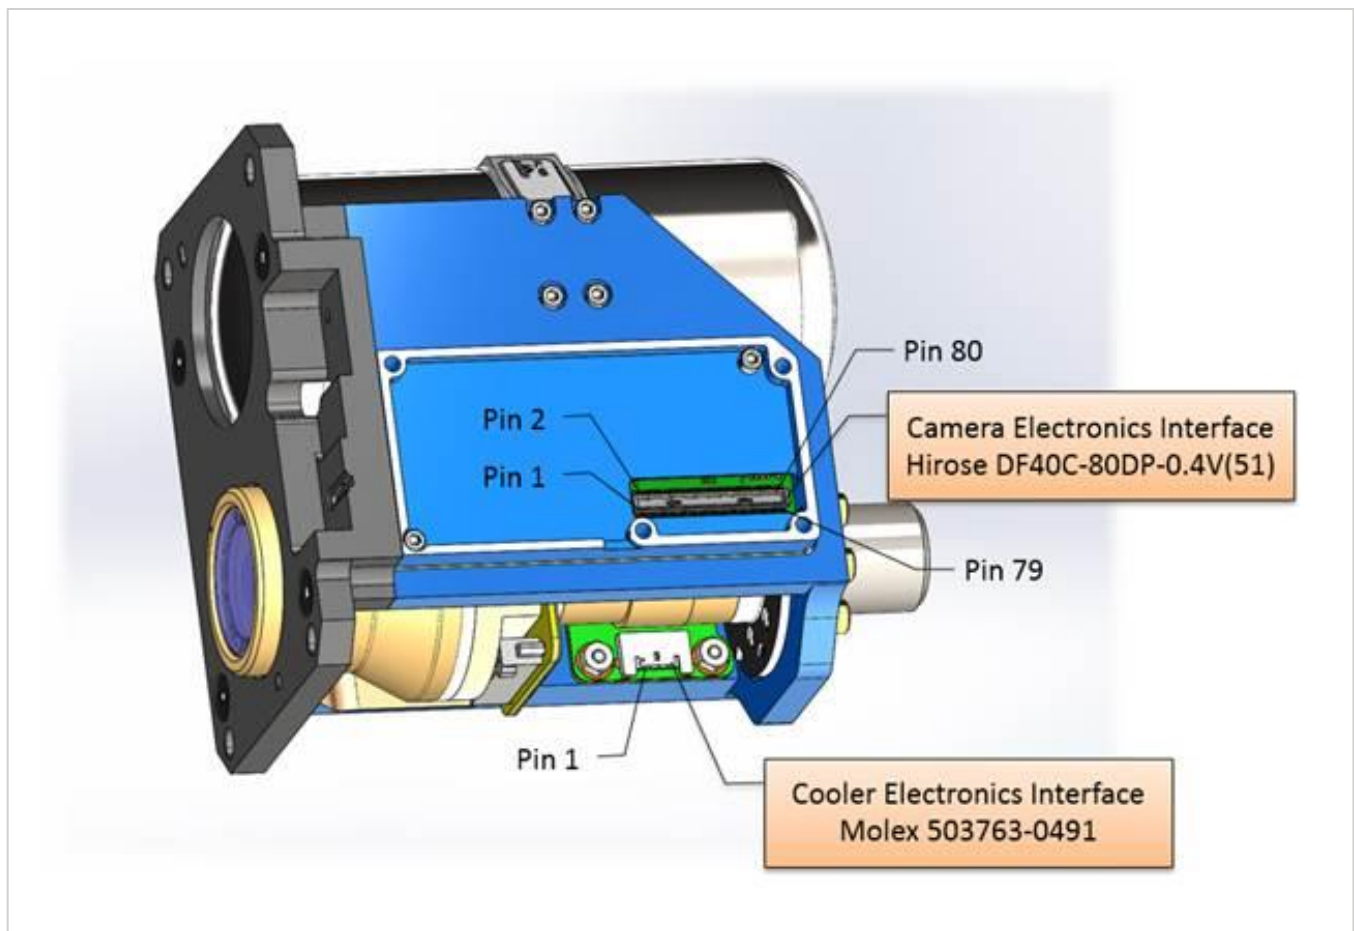

FIGURE 2: NEUTRINO LC CAMERA ELECTRONICS CONNECTOR PIN NUMBERING
As shown in Figure 2, the electrical interface to the Neutrino LC camera electronics board is via a single 80-pin connector, Hirose DF40C-80DP-0.4V(51). The recommended mating connector is Hirose 80-pin board-to-board receptacle (socket) DF40HC-(4.0)-80DS-0.4V (51), for a mating stack height of 4.0 mm.
Also shown in Figure 2, the electrical interface to the Neutrino LC cooler electronics board is via a single 4-pin locking connector, Molex pico-lock 503763-0491. The recommended mating connector is Molex 4-pin pico-lock crimp housing 503764-0401, for a 1.50mm mated height.